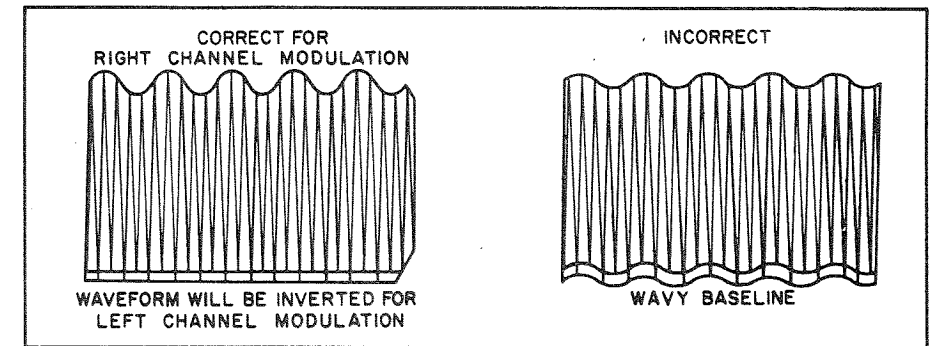

Figure 7. Waveform At Test Point 402.
(6) Turn R107 SEPARATION CONTROL (on preamplifier board) CW to maximum resistance setting. Adjust core of Z403 (on AM/FM IF, MPX board) for maximum gain and as straight a base-line as possible on scope (see Figure 7). AC VTVM should read minimum.
(7) With MPX generator modulated on right channel only, connect AC VTVM to Right RCDR OUT jack. Record reading on AC VTVM.
(8) Set MPX generator to modulate left channel only. Adjust R107 SEPARATION CONTROL (on preamplifier board) for minimum reading on AC VTVM; at least 30 dB below reading recorded in step (7). Record reading.
(9) Connect AC VTVM to Left RCDR OUT jack. Same reading  $\pm 2$  dB as recorded in step (7).
(10) Set MPX generator to modulate right channel only. Same reading  $\pm 3$  dB as recorded in step (8).
**NOTE:** If equal readings cannot be obtained in steps (8) and (10), readjust Z402 slightly (on AM/FM IF, MPX board) and repeat steps (7) through (10).